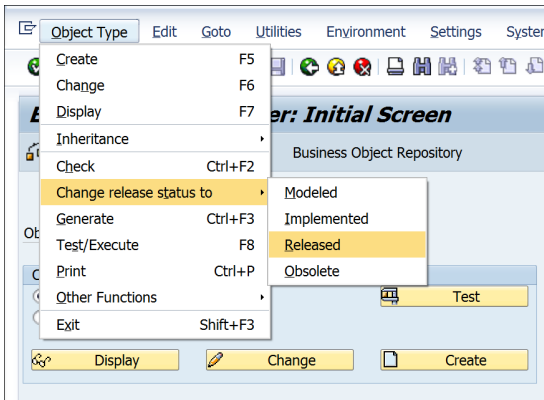

Figure 19.24 Release Object
8. After changing the release status of the methods, the object itself should be released so that external applications can use the business object and access its components. To change the release status of the business object, from the initial screen of Transaction SWO1, follow the menu path OBJECT TYPE • CHANGE RELEASE STATUS TO • RELEASED, as shown in Figure 19.24. The business object should be saved in a transportable package for the object to be set to the RELEASED status. Once released, the object can be accessed from BAPI Explorer and used by external applications.